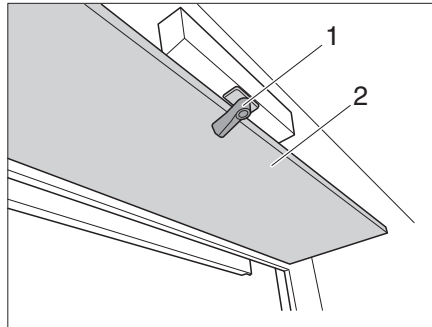

Fig. 147 Flap for the crank
- Release the locking mechanism (Fig. 147,1) and fold the flap (Fig. 147,2) downwards.